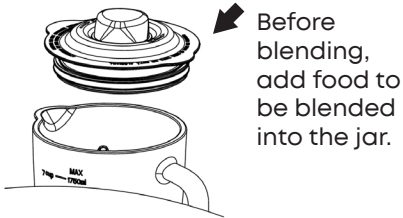

Fig. 6
2. Place the food to be blended into the jar (See Fig.6) . Usually, certain amount of purified water has to be added to facilitate the smooth running of appliance. The proportion of the food and water is 2:3.The amount of mixture should not exceed the max level as indicated on the jar.